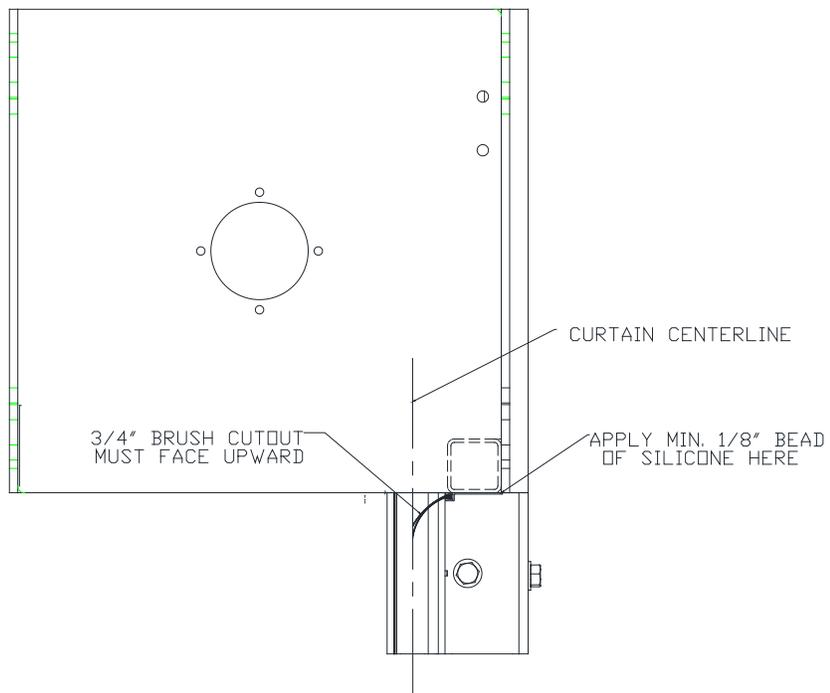

Figure 9.4 “L” Shaped Lintel Seal 1024 Between Jamb
7. Once lintel seal is mounted in place apply silicone to the location identified below in *Figure 9.4*.